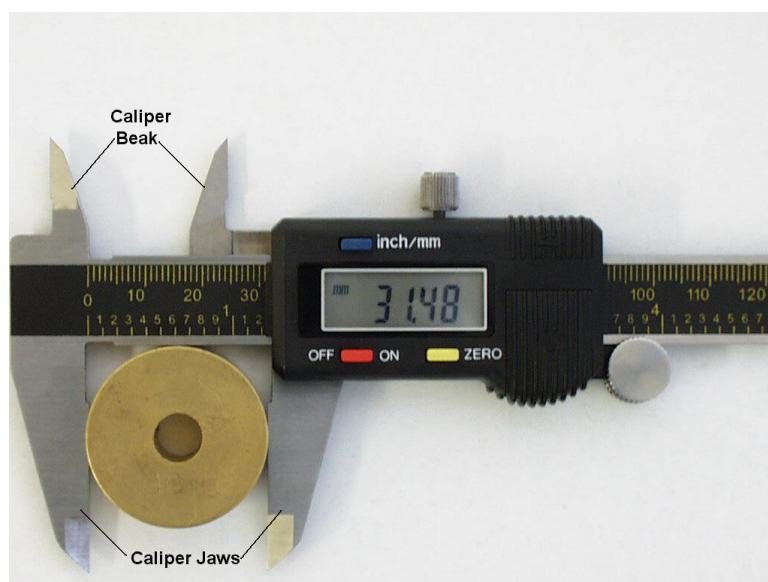

Figure 1: Electronic Digital Caliper
- (c) Figure 1 displays the measured diameter of a cylinder placed between the jaws of the caliper. Notice the cylinder is positioned at the middle indent of the jaws. The spheres and cylinders used in this experiment should be positioned similarly.
5. Insert the “beak” of the caliper (see Figure 1) into the hole of the brass cylinder. (Note: The jaws of the caliper should be closed before the “beak” of the caliper is inserted into the hole in the brass cylinder). Expand the jaws until the inner edges of the “beak” meet the edges of the hole. Measure the diameter of the hole and record this value in the **diameter-in** column.